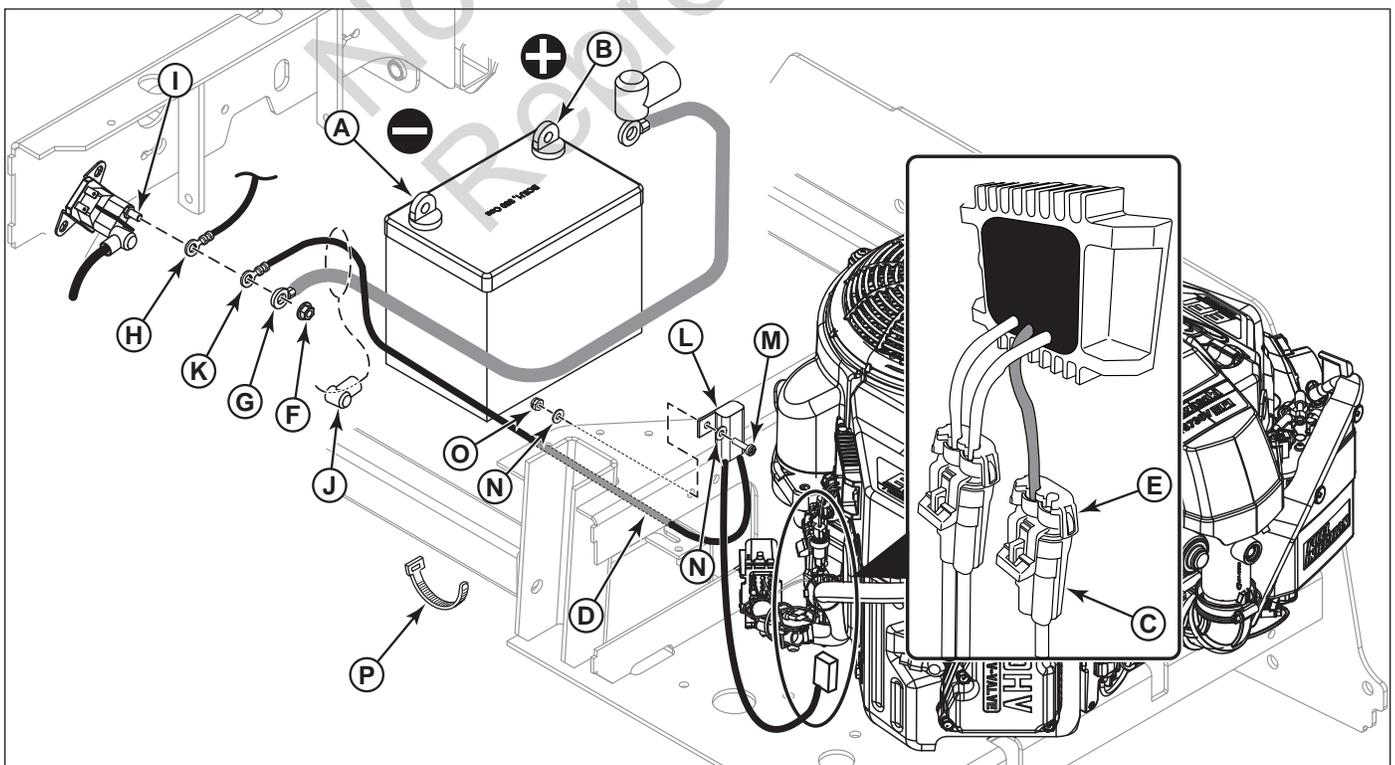

Figure 1. Installing the Wire Harness
3. Disconnect the battery cables from the battery, negative [-] cable (A, Figure 1) first and then the positive [+] cable (B).
4. Connect the snap connection end (C) of the charge circuit wire harness (D) to the engine's voltage regulator connector (E). It is recommended that dielectric grease be applied to the wire harness before making this connection.
5. Remove the nut (F) that secures the battery cable's ring terminal (G) and the ring terminal (H) of the main harness's red wire to the solenoid post (I).
6. Remove ring terminal of the main harness's red wire for the battery cable's insulating boot (J) and install the ring terminal (K) of the charge circuit wire harness through the insulating boot.
9. Install the sealed fuse holder (L) to the cross brace of the frame of the unit using the #10 screw (M), two (2) #10 SAE washers (N), and a #10 hex nylon lock nut (O).
10. Use the self-locking wire tie (P) to secure the charge circuit wire harness to the main harness of the unit by the left hydraulic fluid tank. Make sure that the charge circuit wire harness can not get entangled in any moving parts.